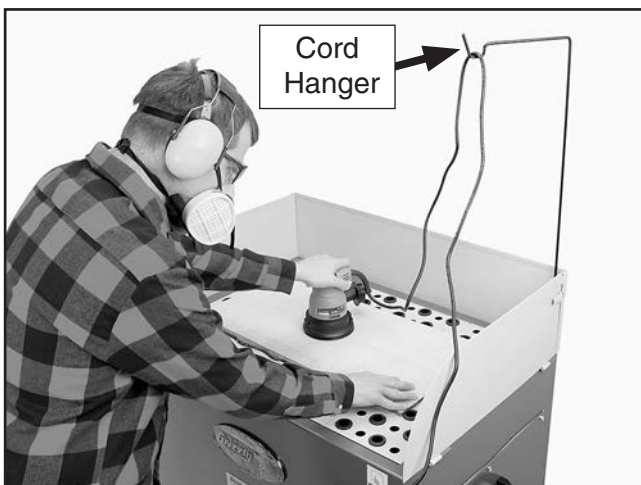

Figure 16. Typical sanding operation set up.
2. Plug a portable sander into one of the two outlets. Press the workpiece down against the rubber support grommets as you sand your workpiece as shown in **Figure 16**.
Note: Use the power cord hanger (**Figure 16**) to move long cords out of the way so they do not interfere with the workpiece.